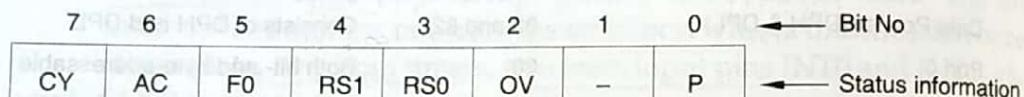

Fig. 10.2 PSW: Program Status Word Register
**PSW (Program Status Word).** PSW register contains program status information as shown in Fig. 10.2. Its bits are indicated as PSW.0, PSW.1, PSW.2, ..., PSW.7.